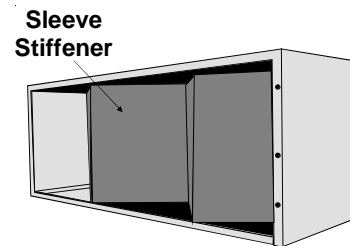

Figure 7 - Sleeve Stiffener Removal
1. Remove the zig-zag folded cardboard sleeve stiffener (Figure 7).